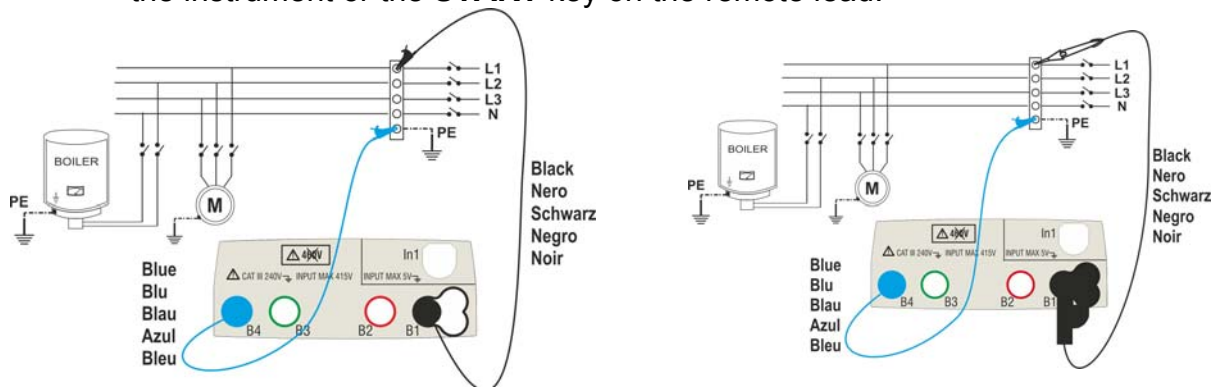

Fig. 8: Insulation test between phase and earth by means of single cables and remote lead
6. Connect the alligator clips and/or test leads and/or remote lead to the ends of the conductors to be tested as in Fig. 8 and Fig. 9.